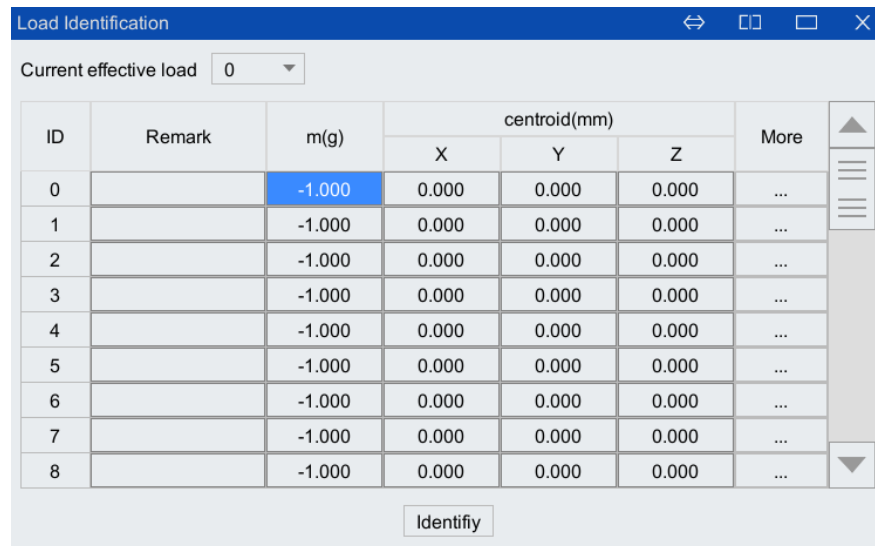

Figure 5-109 Load parameter setting interface
Step2.Click "Run>Load Parameter Configuration" on the main interface of the teach pendant to enter the [Load Parameter Setting] interface as shown in Figure 5-109.